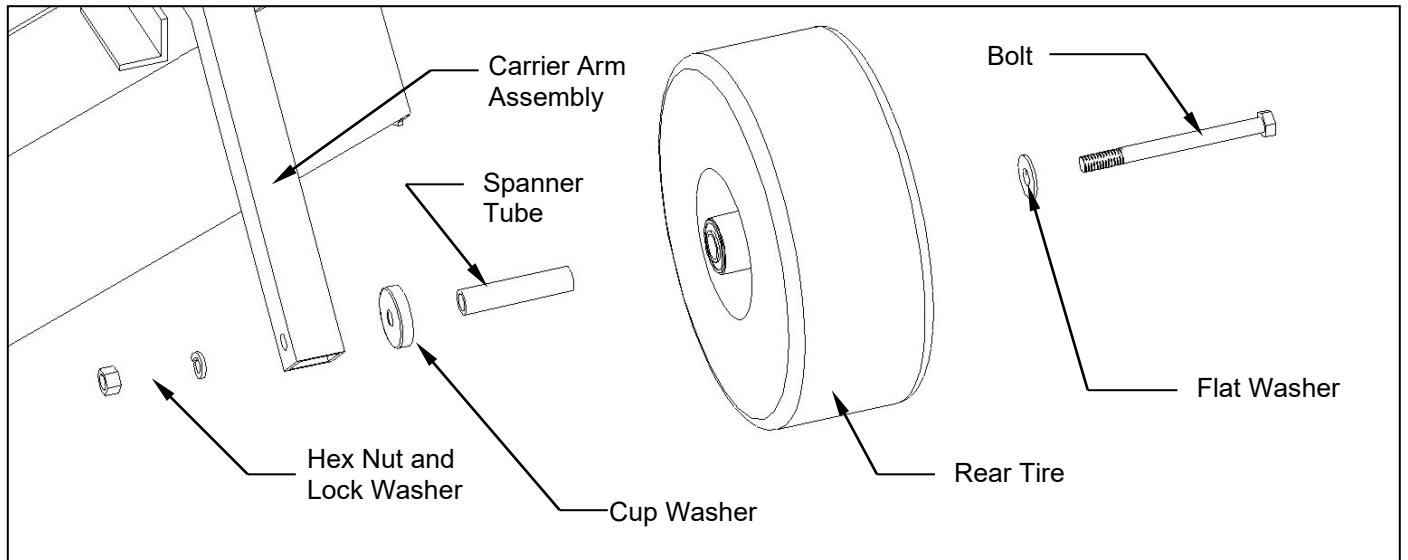
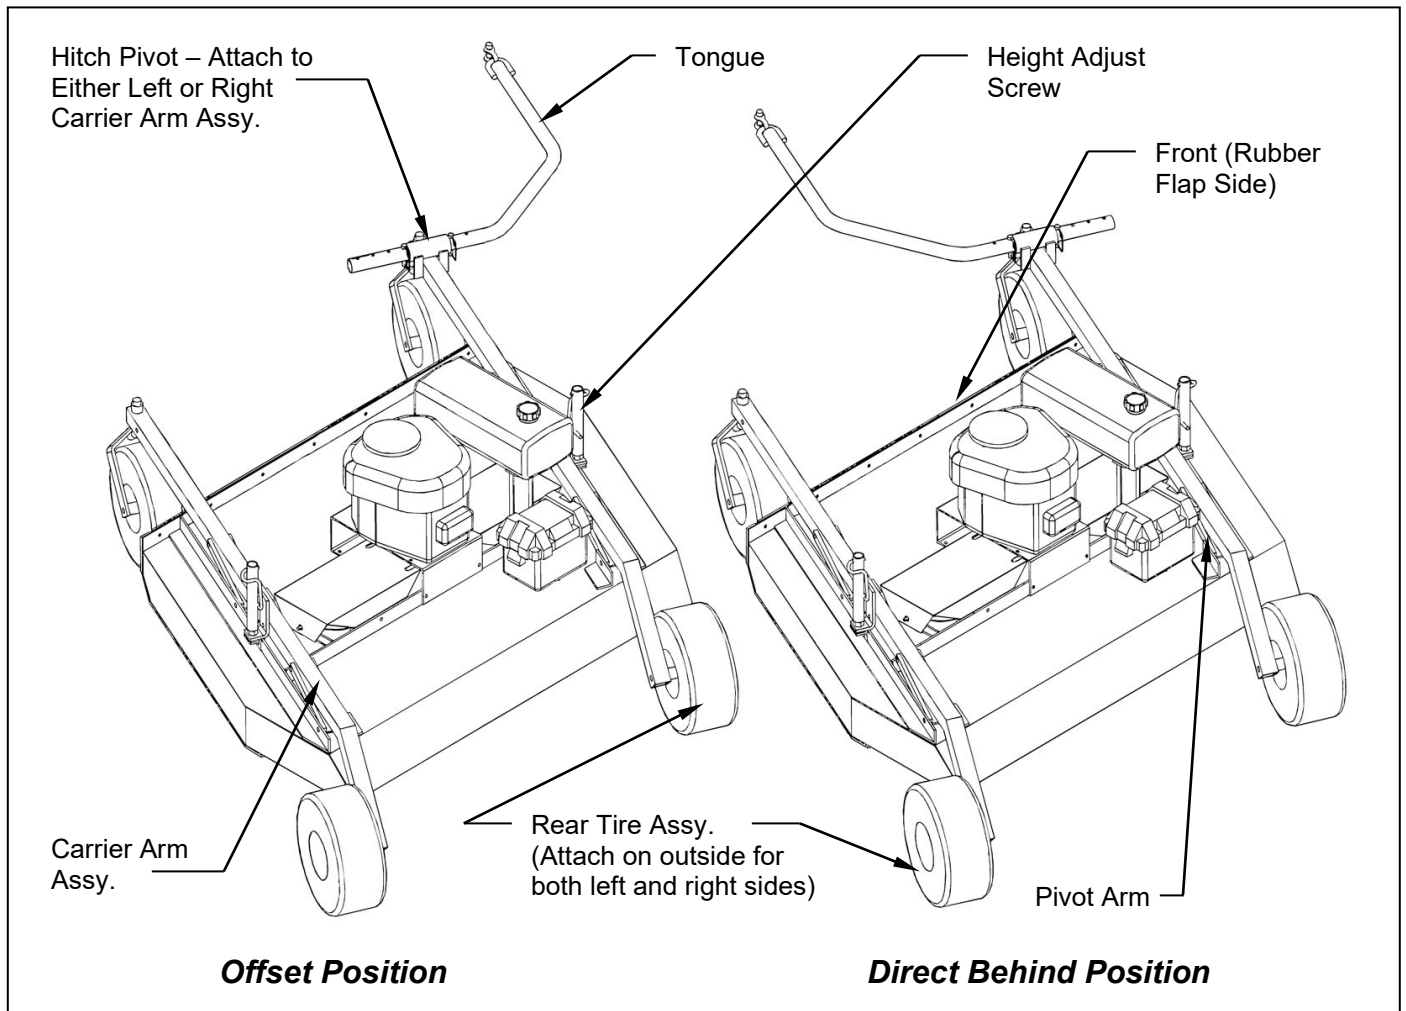

Figure 1: Rear Tire Assembly Installation
Figure 2: Assembly of Carrier Arm Assy., Hitch Pivot, and Tongue
2. Install the rear tire assemblies on the carrier arm assemblies. Remove the hex nut and lock washer from the rear tire assembly and install the 5/8"x7-1/2" tire axle bolt through the hole in the carrier arm assembly. **See figure 1.** Secure assembly with the lock washer and hex nut provided on the rear tire assembly. The rear tires should be offset to the outside of the deck assembly on both sides. **See figure 2.**
3. Install the two carrier arm assemblies in the pivot arms, which are located on the mower deck assembly. Place the assembly so that the castered tires are on the front and the fixed tires are on the back. **See figure 2.** Secure with 1/2" x 3-1/2" hex head bolts and lock nuts provided on the pivot arms. Mount the height adjust screw on the deck assembly in the hole provided. Secure with the 1/2"x1" hex head bolt and lock nut provided on the height adjust screw.
1. The tongue can be installed either on the left or right caster assembly depending on how the tow-behind mower will be towed. **See figure 2.** Secure the hitch pivot on the chosen caster assembly with the 1/2" x 3-1/2" hex head bolt, lock washer, and nut provided.
**Note:** When pulling the mower directly behind, the hitch pivot should be fastened on the right carrier arm for maximum maneuverability. **See Figure 2.** When pulling the mower in the offset position the hitch pivot can be fastened on either the right or left carrier arm. **See Figure 2.**